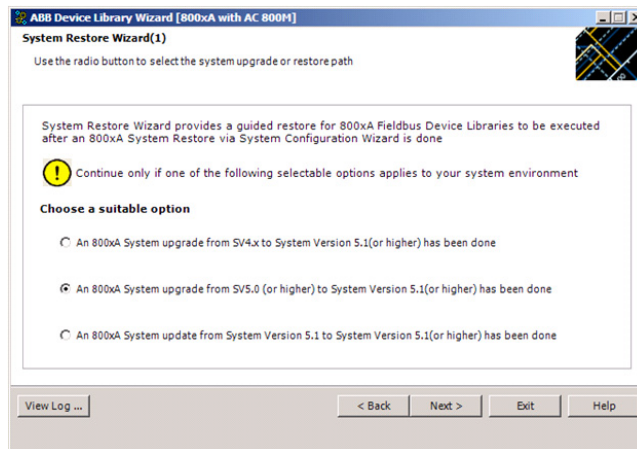

Figure 15. System Restore Wizard (1)
- Choose the second option in the System Restore Wizard as shown in Figure 15 and click **Next**.